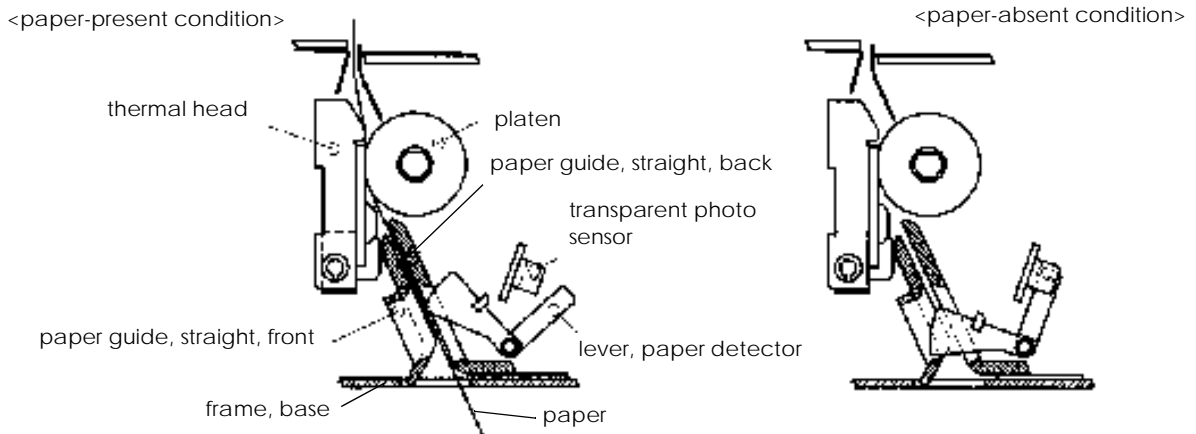
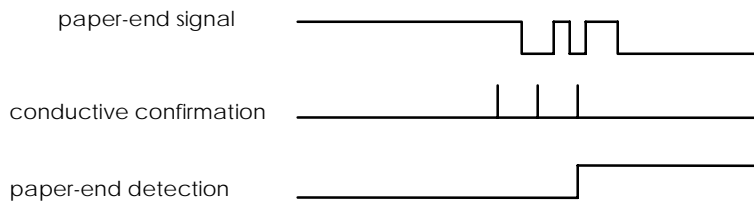

Figure 2-11 Paper-end detector mechanism
Figure 2-12 Paper-end detector operation
The transparent photo sensor is in a high state (HI) when the paper is present, and in a low state (LOW) when the paper is not present because the lever, paper detector blocks light to the sensor. When the end of the thermal paper passes through the paper guide, the lever, paper detector operates as shown in Figure 2-11. At this time, the output level from the transparent photo sensor varies as shown in Figure 2-12, then the absence of paper is detected. When the semi-autoloading function is used, the insertion of paper changes the status from “no paper” to “paper.” Since the output level changes from LOW to HI, the status changes to “paper”; then the semi-autoloading function is initiated.